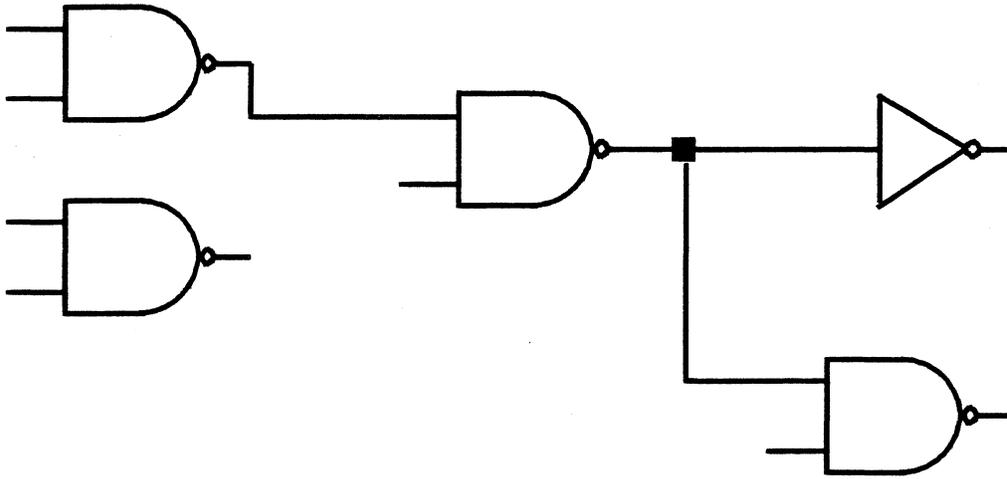

Figure 2.29
- 4) When you complete the segment between connection points or junctions, activate the Edit Path and Junctions Menu. Select **Apply Edit** to apply net (figure 2.29). If you apply the net before you connect two junctions, symbol connection points, or a symbol and a junction, the system completes the net to the point marked by the "X." Select **Abort Edit** to abort your edit. Like the right mouse button, **Forget Last** erases the last bend in the net path.